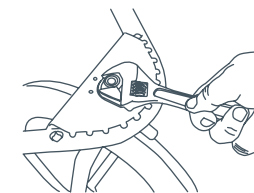

Fig. 22
22) • Remove footrest to access nut. You can use a standard crescent wrench to tighten the nut (Fig. 22).